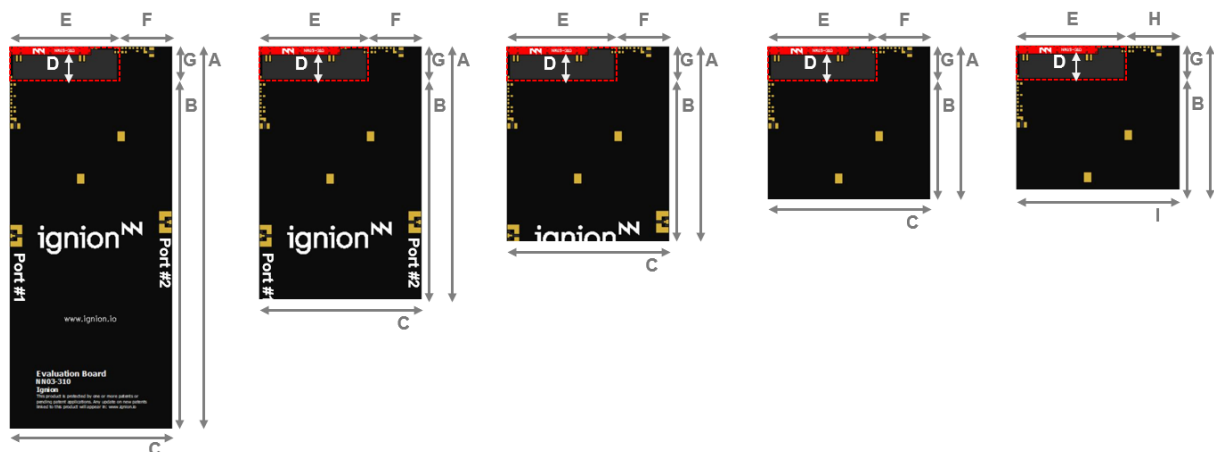

Figure 1 – Evaluation boards with different PCB dimensions that provide operation from 698 MHz to 960 MHz and from 1710 MHz to 2690 MHz.
Each PCB board in the following set-up integrates a UFL cable to connect the TRIO mXTEND™ chip antenna component with a SMA connector so that VSWR and antenna efficiency can be tested. The following results cover a wide scope of PCB sizes (length (A) and width (C)) (Figure 1), ranging from 142mm x 60mm down to 50mm x 50mm.
Table 1 – Total efficiency (%) comparison considering the different PCB sizes (Figure 1).